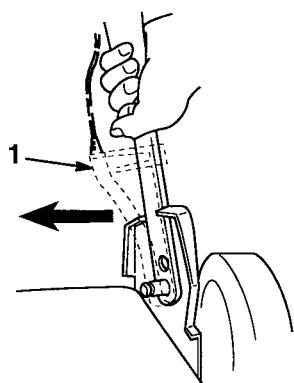

Figure 19
1. When adjusting handle height, slide cable anchor on handle to align hole in cable anchor with desired hole in handle. Locate holes over pin inside handle bracket (Fig. 19).